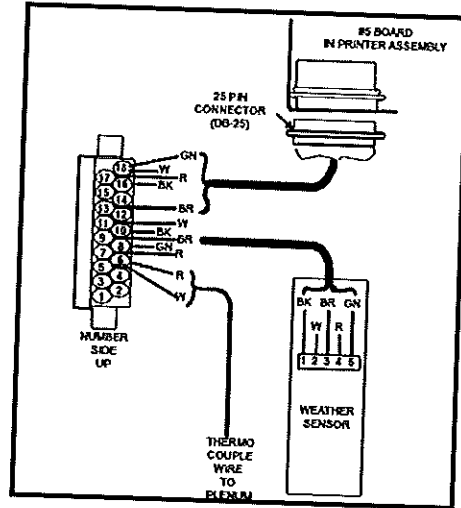

Figure 11
The (5) wire cable from the Sensor Board is pulled up through the bushing and the Mount Housing is secured to the bottom of the cabinet by turning the bushing into the mount housing until tight. Now place the (5) wires listed above into their correct terminals and tighten, see Figure 11.
A length of (5) wire cable will probably have to be spliced and soldered to the 8 ft. (2.44m.) cable supplied with the Weather Sensor to reach the distance selected from the dryer. Be sure to allow 36" (92cm.) from the bottom of the remote cabinet to the (36) Pin Black Connector at the top inside of the cabinet. See Figure 11.